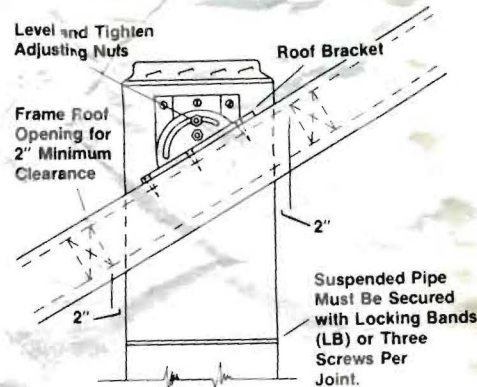
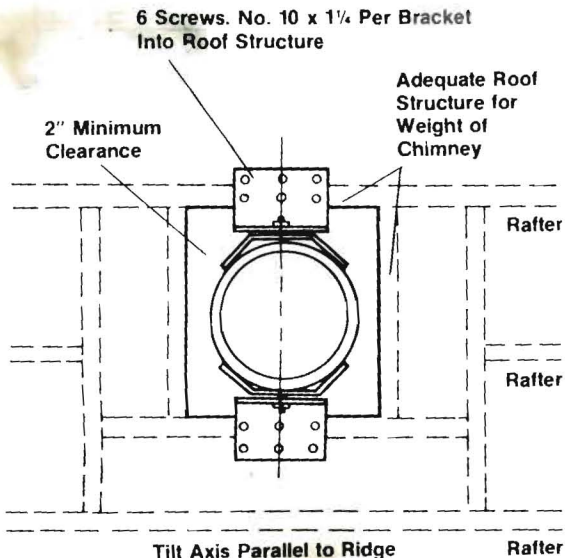

FIG. 2 ROOF SUPPORT POSITION ON SLOPED ROOF
FIG. 1 ROOF SUPPORT FRAMING
1. Cut an opening in the roof and frame all around the opening to distribute weight load (Fig. 1). Be sure to allow for a 2" minimum clearance (Fig. 2).
2. Center assembly in the opening. Adjust plates to the roof pitch and tighten nuts (Fig. 2).
3. Install six screws per roof plate with the innermost screws going into rafters or headers (Fig. 1).